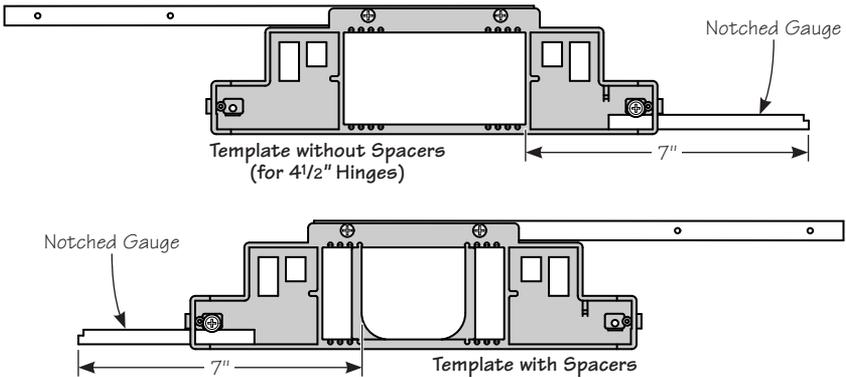

Figure 6: Setting notched gauge on upper and lower templates.
1. Set the notched gauge on the upper and lower templates such that it is 7" from the hinge spacer, as shown in **Figure 6**.